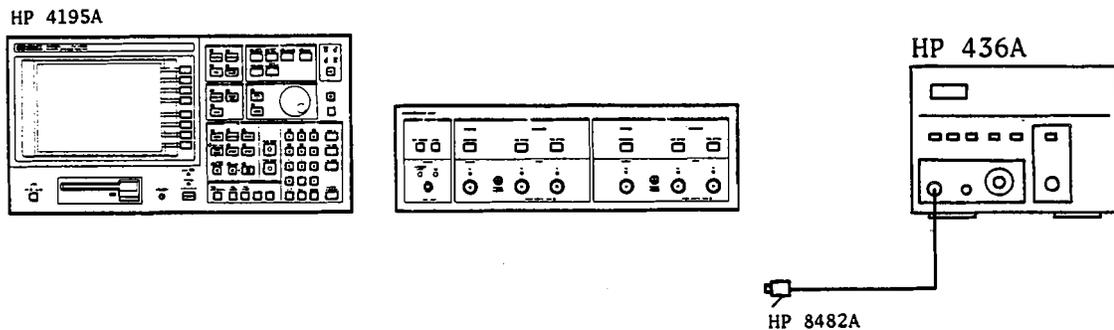

Figure 3-132. Power Amplifier Gain Adjustment Setup
- Place the Control and Measurement Units as shown in Figure 3-132, and connect the Interconnection Cables between both units.